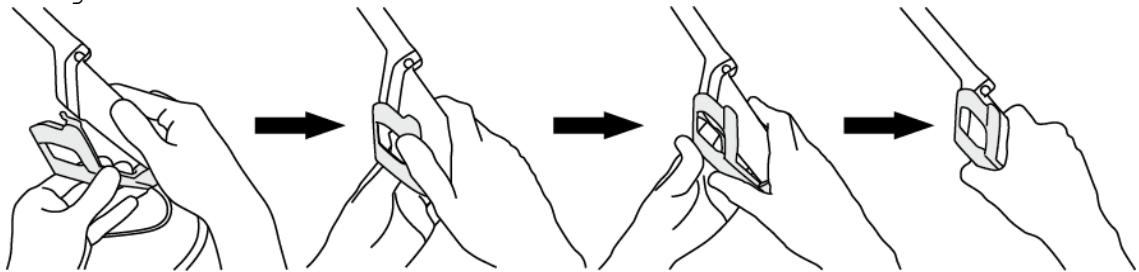

Fig.15
- b) Attach the Magnetic sensor attachment to the probe as shown in Fig.15.